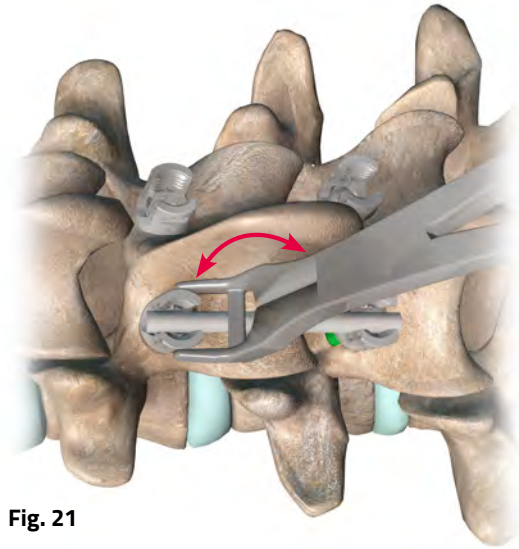

Fig. 21
**NOTE:** Applying too much reduction force to screws can result in screw pullout. **(Fig. 21)**